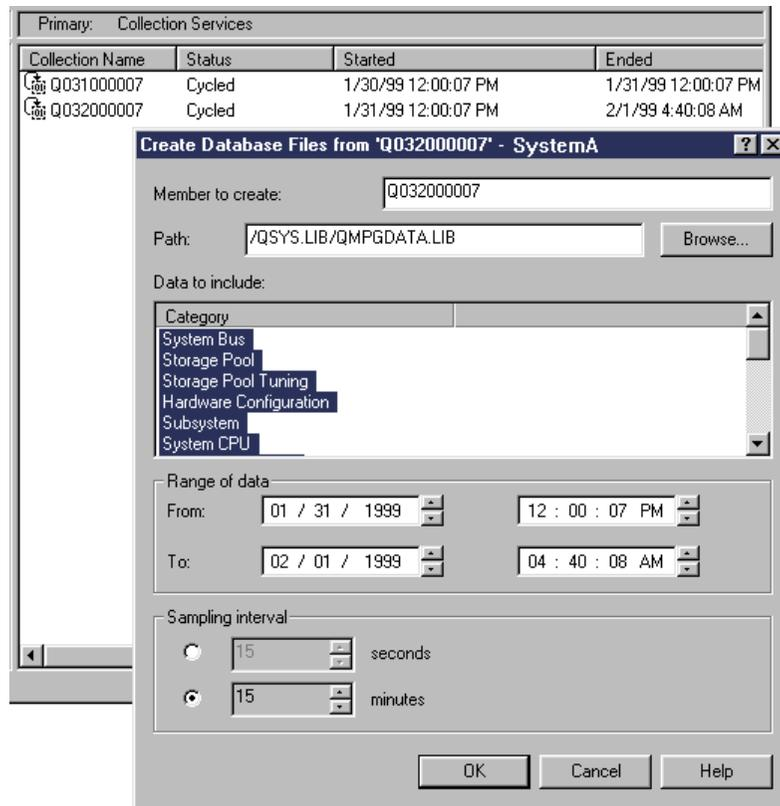

Figure 54. Creating Database Files from Collection Services
5. On the Create Database Files dialog (Figure 54), select the categories from the collection object to include in the database files. You can also select a different time period and sampling interval, as long as the collection object contains data to support your selections.